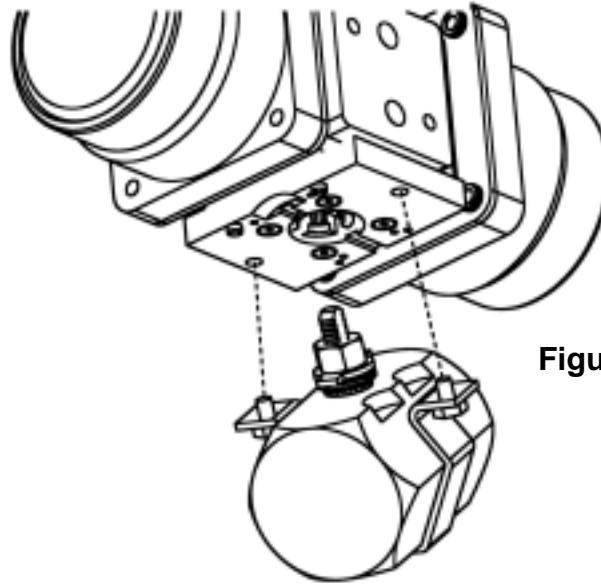

Figure 4
3. Place the actuator, with the bracket attached, atop the valve so that the 12 point socket engages the stem nut, the shaft notch engages the drive-key and locator screws straddle the valve body hex (see Figure 4). If the locator screws do not span the valve properly (i.e. interfere with eyebrows or do not engage valve) turn valve 180 degrees.